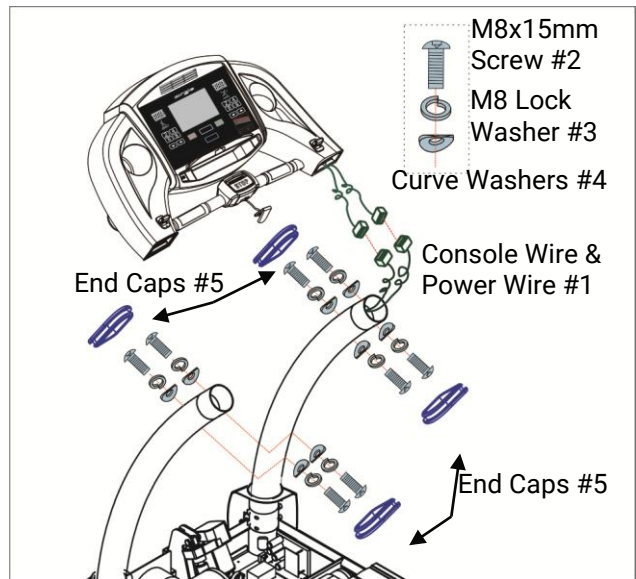

Fig 2.5-4A
- 2) Place the Console on top of the Console Mast. Tighten (8) **M8x15mm Screws #2**, (8) **M8 Lock Washers #3** and (8) **Curve Washers #4** with a 5mm Allen Wrench. (Fig2.5-4A)